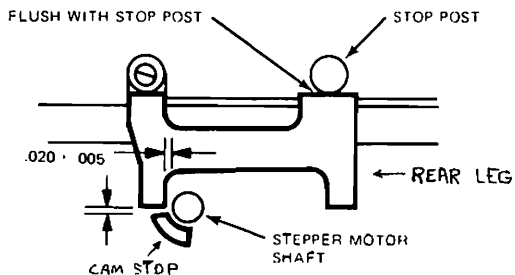

FIGURE 6 CARRIAGE LIMITER ADJUSTMENT
- c. Position the limiter until it is flush with stop post on the carriage assembly (Ref. Figure 6). NOTE: Some carriage assemblies do not have a stop post. On these the limiter is inserted into a notch cut into the carriage.
- d. Adjust the carriage limiter horizontally and vertically until there is  $.020'' \pm .005''$  between the front leg of the limiter, the stop on the actuator cam, and the stepper motor shaft (Ref. Figure 6).